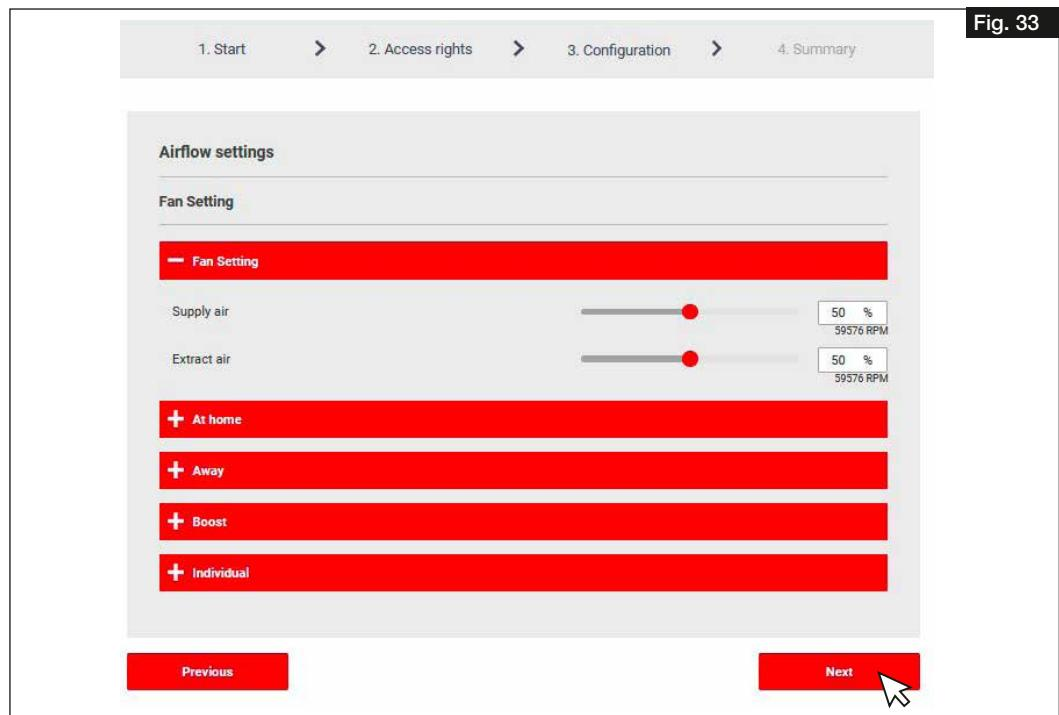

Fig. 33
**The position of the wall attachment must be selected to ensure a sufficient gradient to the condensate connectors (cf. Fig. 33)!**